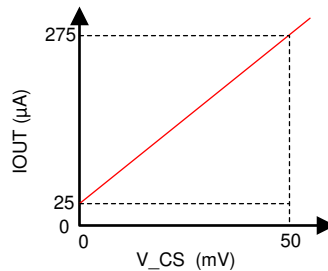

Figure 8-5. Channel Monitor Current Source vs Current Sense Voltage
- the 25 μA is a DC offset current superimposed on to the IOUT signals (refer to Figure 8-5).